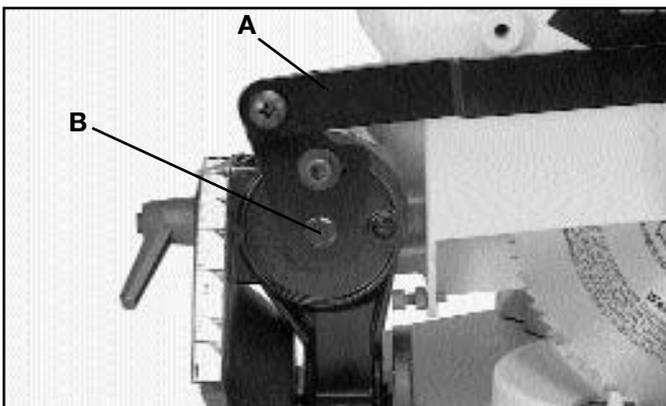

Fig. 5
1. Hook one end of guard lifting lever (A) Fig. 5, on stud (B), as shown.